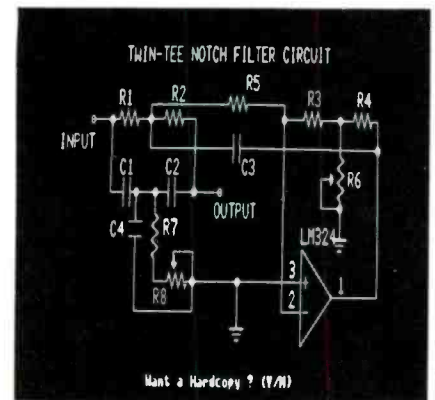
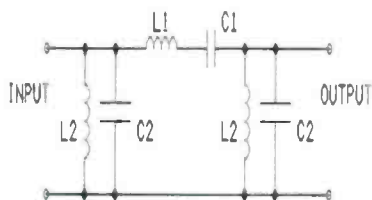
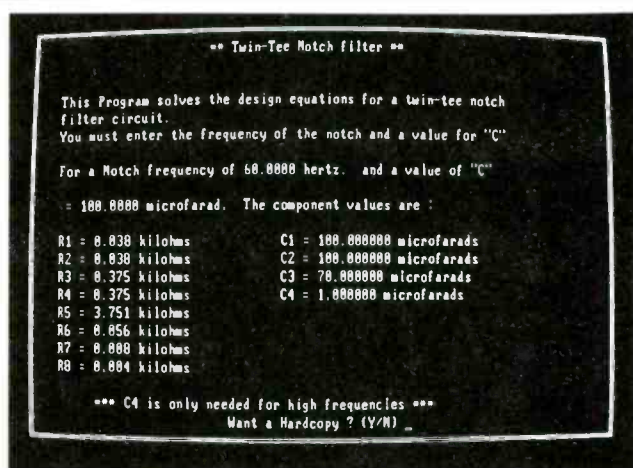

Fig. 1—If you've got the right hardware, *CompDes* will create a screen display of the circuit that you are designing.
Fig. 3—This is the hardcopy of a band-pass filter circuit.
Fig. 7—And here it is. All the values for an active Tee-Notch filter based on the data input shown in Fig. 6.
The second motor control circuit is produced by combining the circuit in Fig. 1 with the one shown in Fig. 3. The center tap of T1 (see Fig. 1) is disconnected from the speed-control circuitry and is tied to ground. None of the speed-control components are used. Rewire the LED section of the U2 and U3 to match the schematic in Fig. 3, and add U5 (1/4 of an LM324 quad op-amp) and the remaining parts.
**Fig. 3—A second motor control circuit is produced by combining the circuit in Fig. 1 with the one shown here. The center tap of T1 (see Fig. 1) is disconnected from the speed-control circuitry and tied to ground (there are no speed-control components used); the LED input of U2 and U3 to match the schematic, and U5 added.**
A typical *CompDes* graphics display—for an active Tee-notch filter—is shown in Fig. 1. It was made on a TTL monitor using SIMCGA.COM. You can tell it's a TTL monitor because the screen prompt "Want A Hardcopy?" are crisp characters, rather than the difficult-to-read characters of a graphics (CGA) monitor.
play shown in Fig. 1. Figure 3 shows the hardcopy for the circuit of a passive band-pass filter.
Almost as fast as Clark Kent changing into Superman, *CompDes* calculates the correct values and displays them on a single screen (Fig. 7). Notice that you have the option of printing a hardcopy. Actually, all screens are printable. For example, Fig. 8 is the hardcopy of the Fig. 7 display, while Fig. 9 is the hardcopy for the band-pass filter circuit shown in Fig. 3. Figures 8 and 9 are found on page 106.